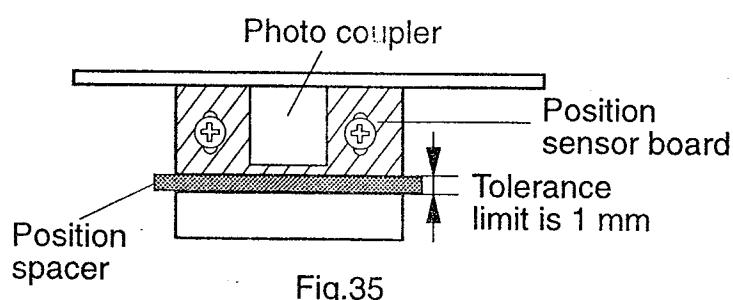

Fig. 35
Step 14. Remove the force motor assembly from the alignment fixture and install the position sensor (Fig 35, 36)